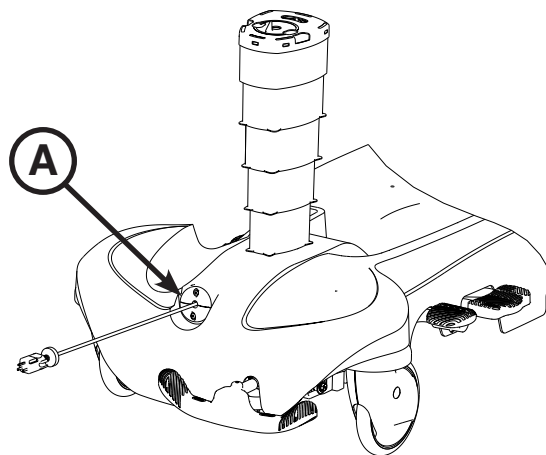

Figure 30: Optional Retractable Cord Reel
The retractable cord reel (A) stores the stretcher power cord during transport as shown in Figure 30.